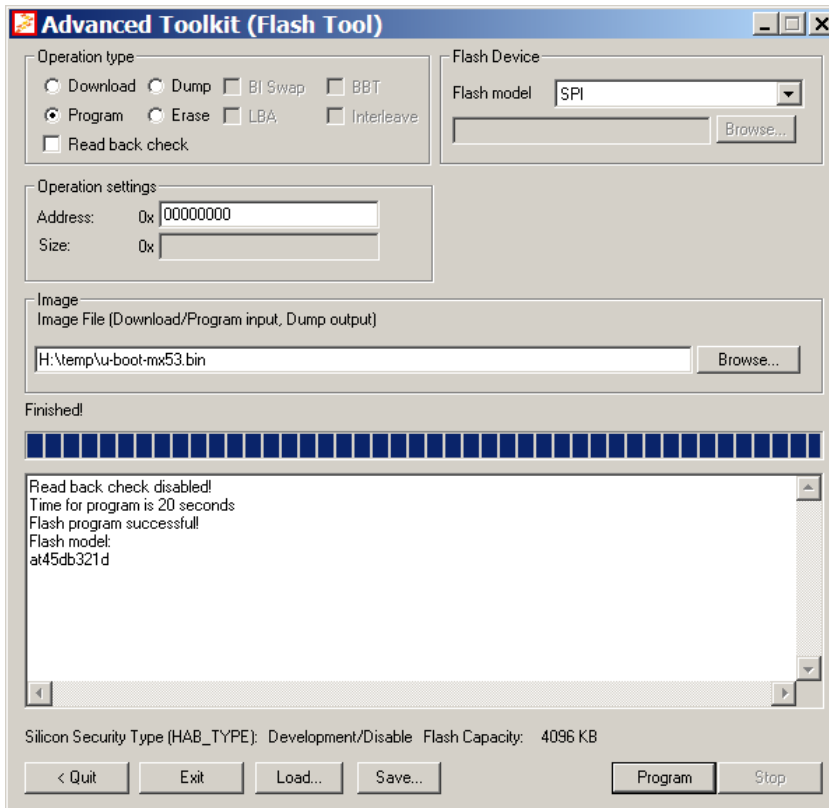

Figure 5-4 Programming U-Boot to SPI-NOR flash
4. Program U-Boot by selecting options as shown in Figure 5-4.